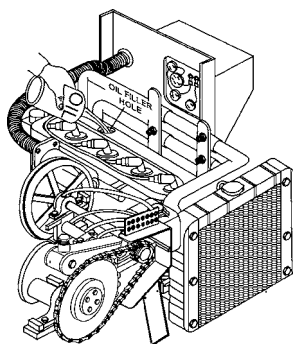

Figure 10. Engine Oil Filler Hole
5. If the engine oil level is low, add oil through the engine oil filler hole (Figure 10) with the recommended oil type (Table 4). Maximum oil capacity is 3.49 quarts (3.3 liters).